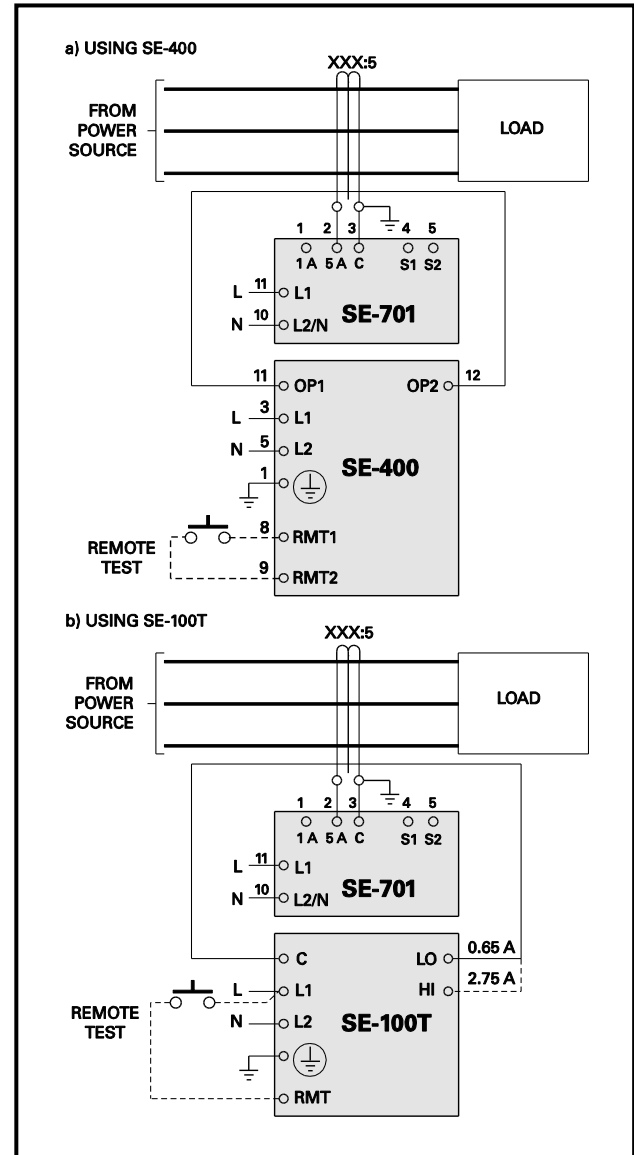

FIGURE 11. Ground-Fault-Test Circuits.
- Verify proper reaction of the circuit-interrupting device in response to a simulated or controlled ground-fault current. To simulate ground-fault current, use CT-primary current injection. Fig. 11 (a) shows a test circuit using an SE-400 Ground-Fault-Relay Test Unit. The SE-400 has a programmable output of 0.5 to 9.9 A for a duration of 0.1 to 9.9 seconds. Set the test current to 120% of the SE-701 setting. Fig. 11 (b) shows a test circuit using an SE-100T Ground-Fault-Relay Tester. The SE-100T provides a test current of 0.65 or 2.75 A for testing 0.5- and 2.0-A trip levels. Inject the test current through the current-sensor window for at least 2.5 seconds. Verify that the circuit under test has reacted properly. Correct any problems and re-test until the proper reaction is verified.